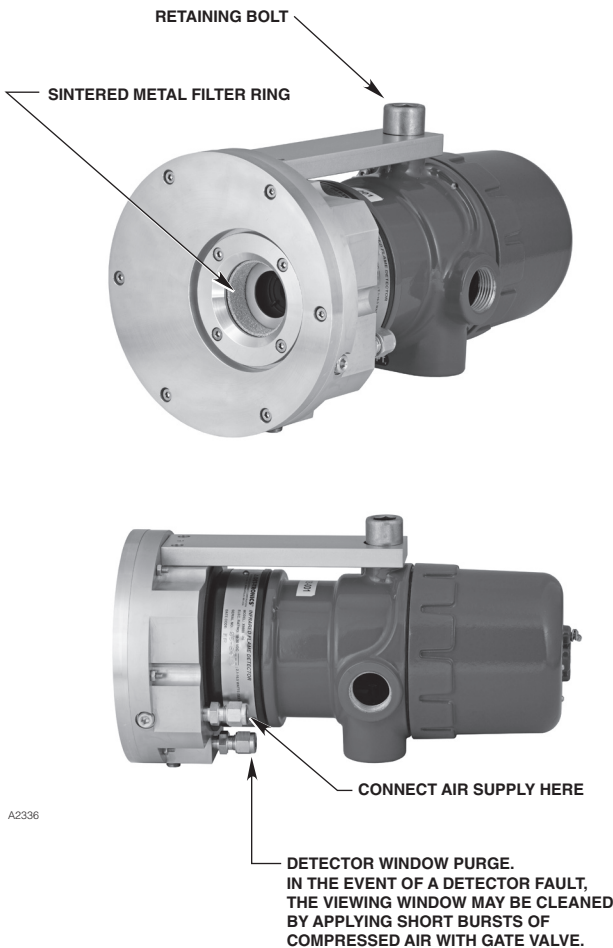

Figure 2—Q1198 Air Shield Attached to X9800 Detector
2. Place the air shield on the front of the detector. See Figure 2.